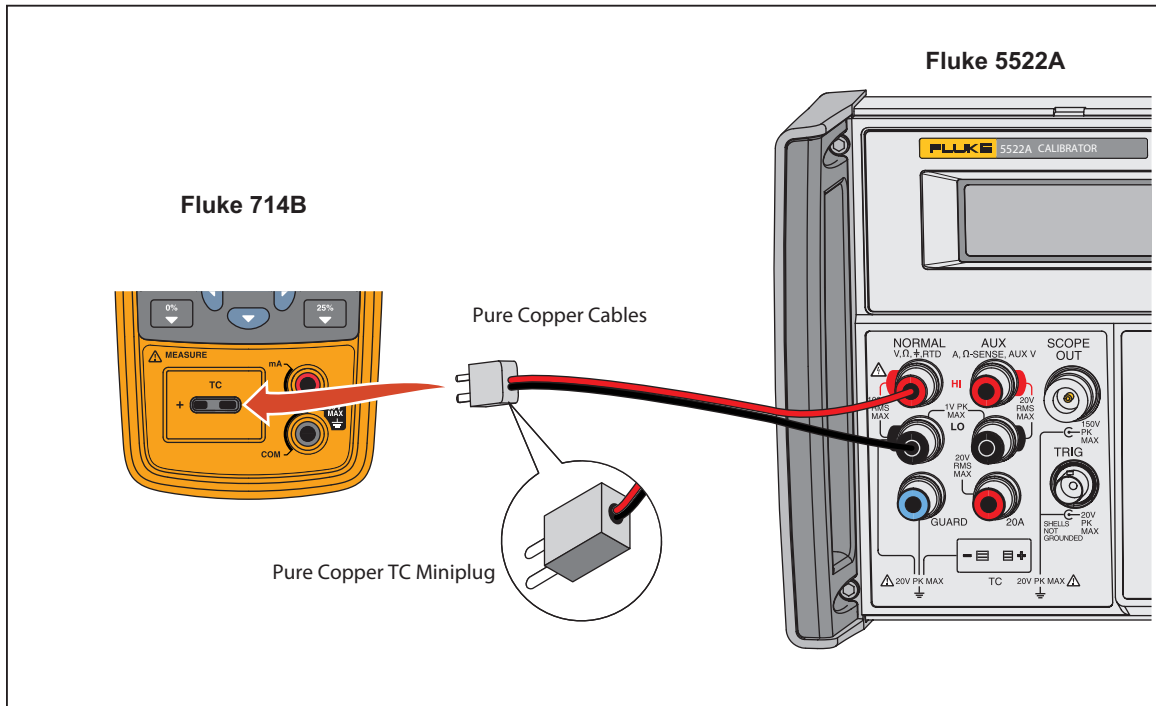

Figure 7. Verify 714B mV Measure
1. Make connections between the 714B and the 5522A with copper wire, as shown in Figure 7.